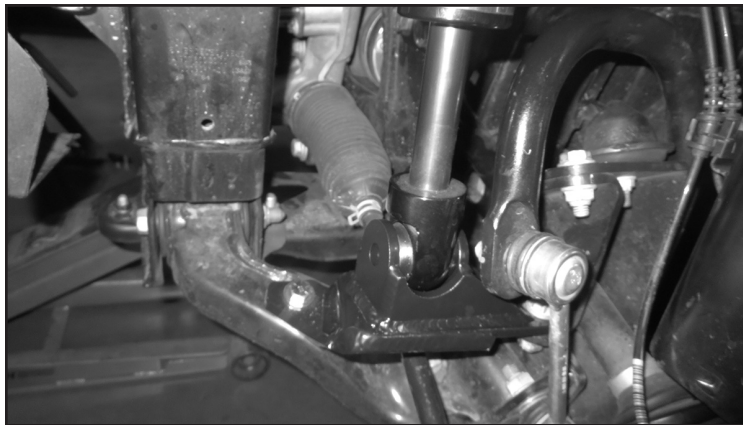

FIGURE 12 - STEP 13
13. Install the Dirt Logic shock into the lower control arm mount using the supplied 1/2" x 2-3/4" Bolt, washers and nut. Torque to 106 ft-lbs. **SEE FIGURE 12**